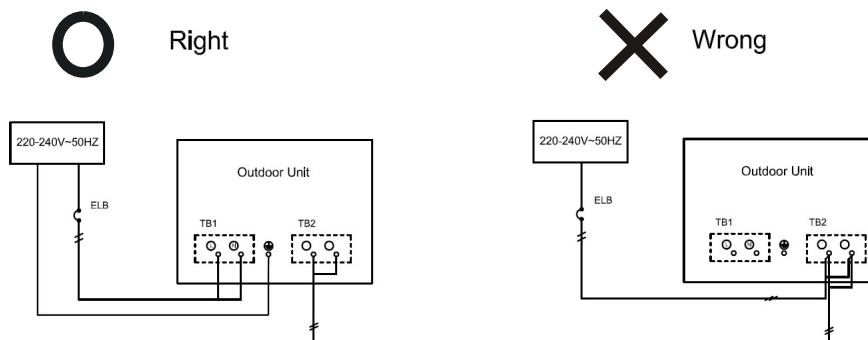

Fig. 6.1 Wiring Connection
- (1) Connect the power supply wires to the terminal board in the electrical control box of both outdoor unit and indoor unit. And connect the earth wire to the electrical control box of outdoor unit. In addition, connect the earth wire to earth screw in the electrical control box of indoor unit. Refer to Fig. 6.1.
- (2) Connect the wires between the outdoor and indoor units to terminal board(TB2). If power supply wiring is connected to the terminal board (TB2), printed circuit board will be damaged. Refer to Fig.6.1